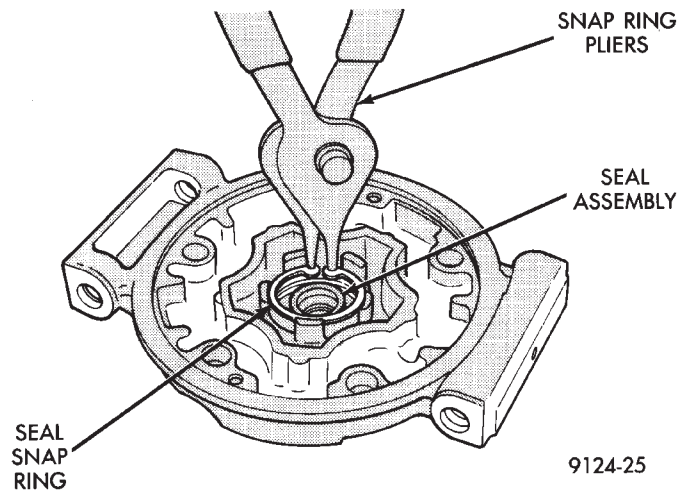

Fig. 12 Seal Snap Ring
(8) Remove seal snap ring (Fig. 12).